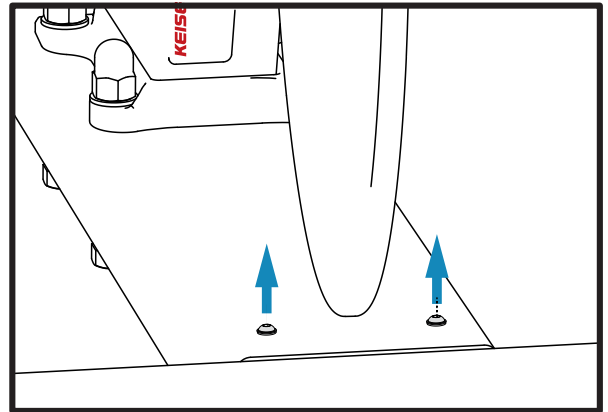

Figure 5. Remove 6mm Allen Screws
1. Remove the two 6mm Allen screws and washers from the base frame, refer to Figure 5. Do not discard the screws. They will be used to mount the flywheel guard.